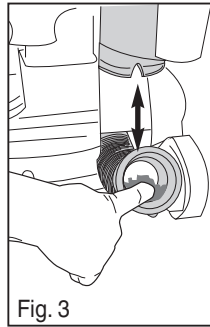

Fig. 3
- **Base hose** – Pull down to loosen end of base hose. Use finger to clear blockage. Snap hose end back up into position (Fig 3).